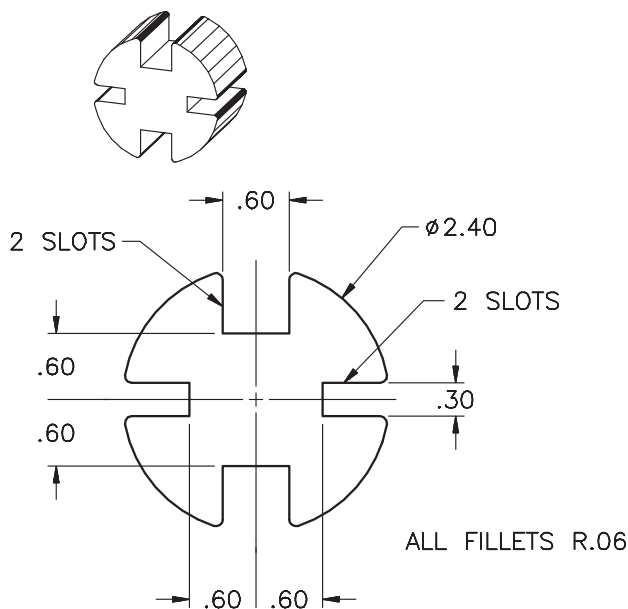

Fig. 17-16
7. Draw the front view of the bar separator shown in Fig. 17-16. Draw one quarter of the bar separator using the **LINE**, **ARC**, and **FILLET** commands with a grid setting of **.1** and a snap of **.05**. Use the **MIRROR** command to make half of the object; then use it again to create the other half.